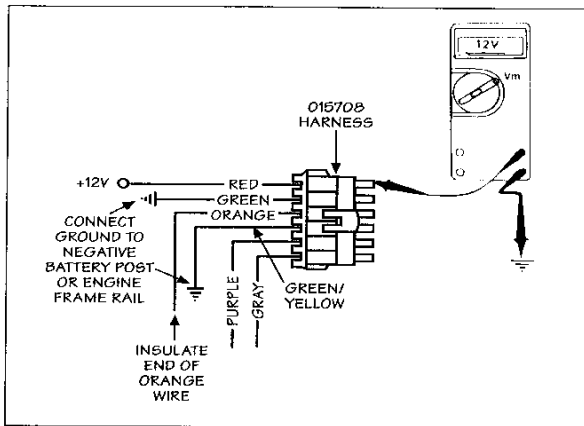

FIG. 1.1.20
**Correction:** With the ignition switch on, disconnect the P/N 015708 harness from the control module connector. Measure the voltage at the RED wire. Place the positive probe (+) of the voltmeter on the terminal of the RED wire and the negative probe (-) to ground. The voltmeter should read +12 VDC (Fig. 1.1.20). If this condition is not present, check that system is energized and check power supply.